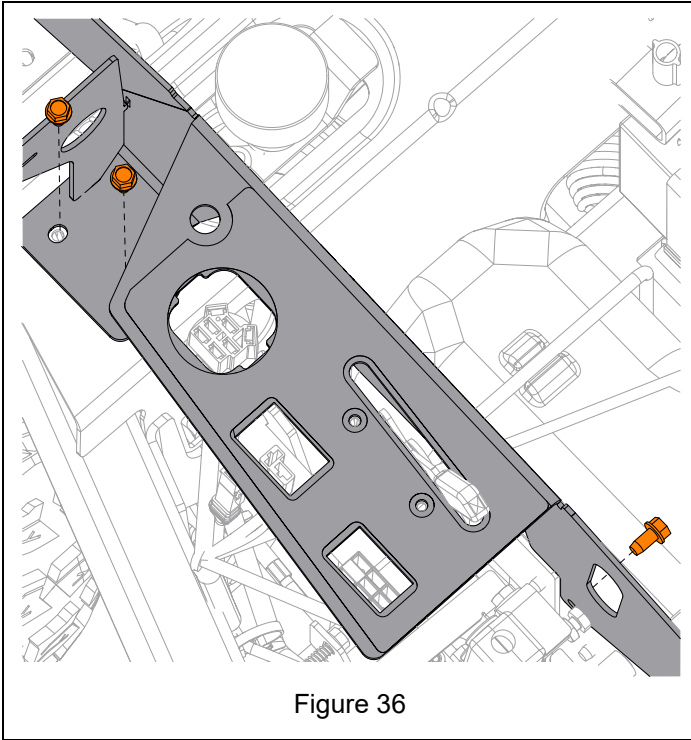

Figure 36
1. Reinstall control panel. Secure with three tapping screws removed previously. See Figure 36.